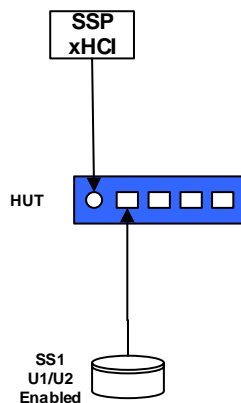

Figure 3-11: Hub and U1/U2 Enabled Device
- Attach tree to the host as shown in Figure 3-11.
- Attach the configuration shown in Figure 3-11 to an available SSP xHCI port.